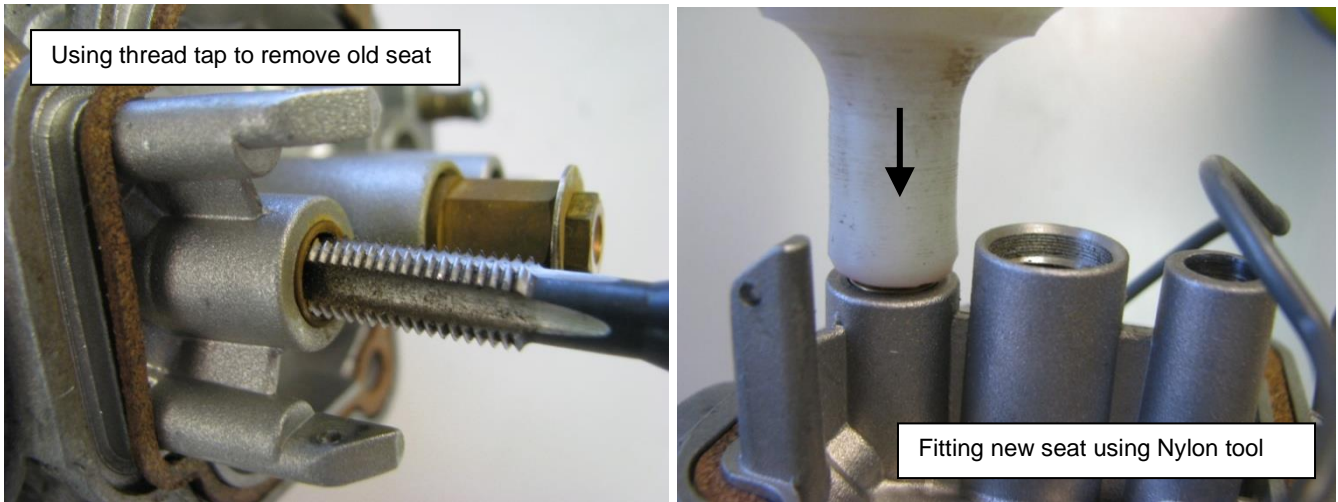

Figure 118 – Fitting New Float Needle Seat
- The float bowl needle seat must be checked. Older 3300 engines use a 2.4mm diameter, specially shaped orifice in this part while the older 2200 engine uses 2.0mm – though the 2.4mm seat is also acceptable for 2200 applications. Current 2200 and 3300 engines use a 2.2mm diameter. Unless this seat is fitted current fuel pressure limits do not apply. Figure 30 shows the tools needed to change the seat which is located in the carburettor body above the float needle. As noted at Figure 30, if the seat is to be changed a tap is used to remove the old part and a special nylon drift used to install the new. More details of this process are included in Section Figure 118.